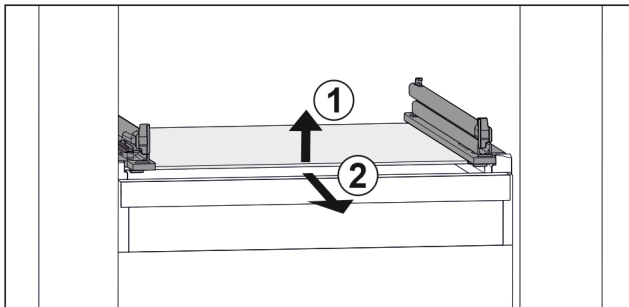

Fig. 72 Example illustration of glass shelf
- ▶ Lift glass shelf at the front. Fig. 72 (1)
- ▶ Take out glass shelf to the front. Fig. 72 (2)